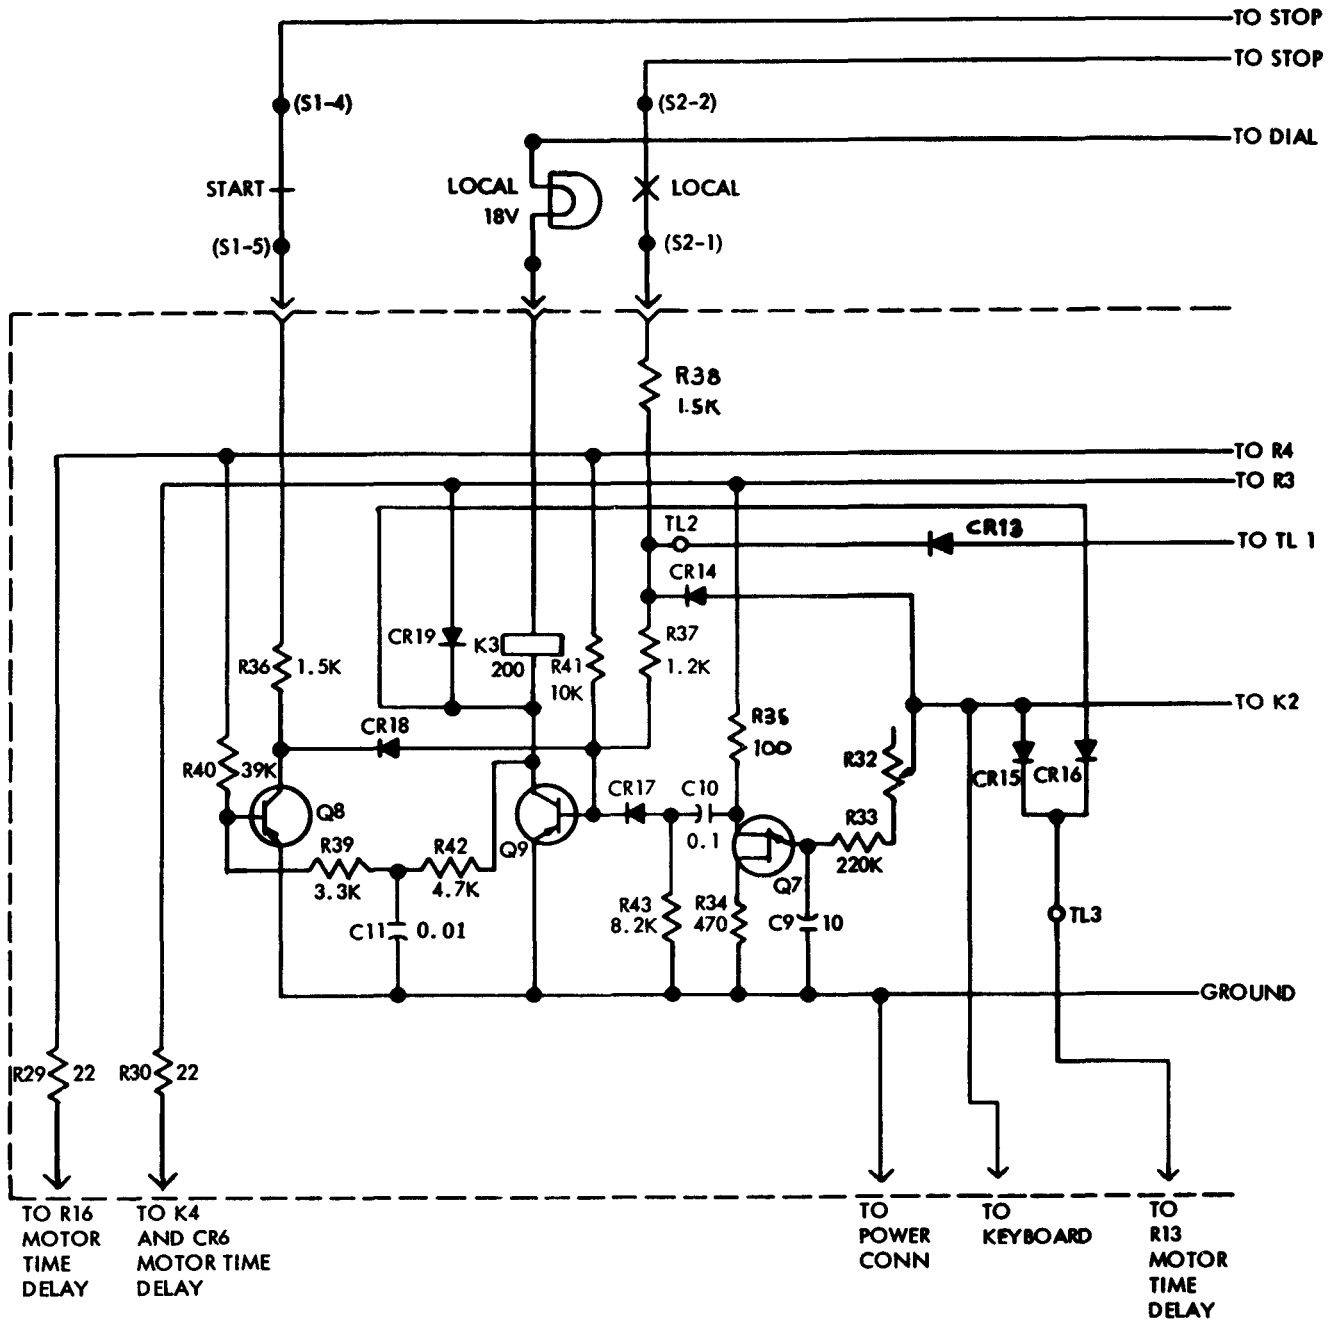

Figure 4 - Local Circuit
**3.08** The local circuit (Figure 4), consists of a binary and a unijunction transistor timer. The binary operation of Q8 and Q9 is the same as that described in the proceed-to-dial circuit. Four input controls are available for use with the local circuit.